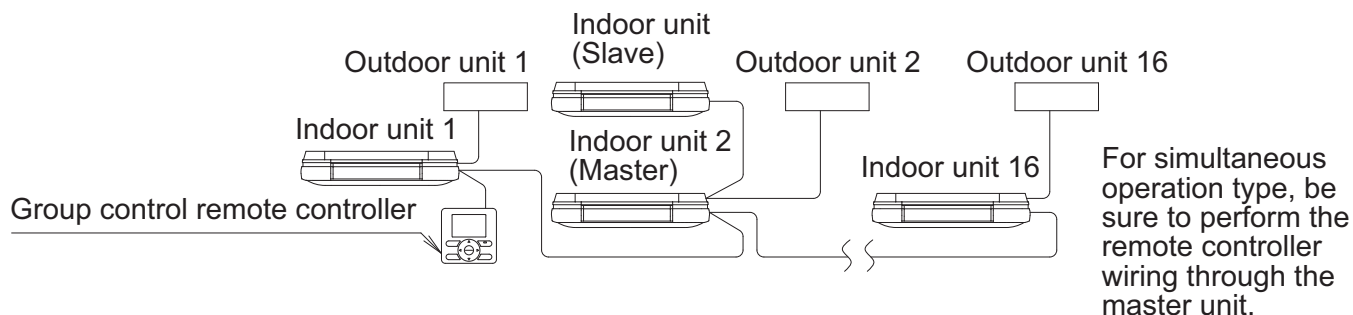

Fig. 43
- When using as a pair unit or as a master unit for simultaneous multiple unit operation, you may carry out simultaneous start/stop (group) control up to 16 units with the remote controller. (Refer to Fig. 43)